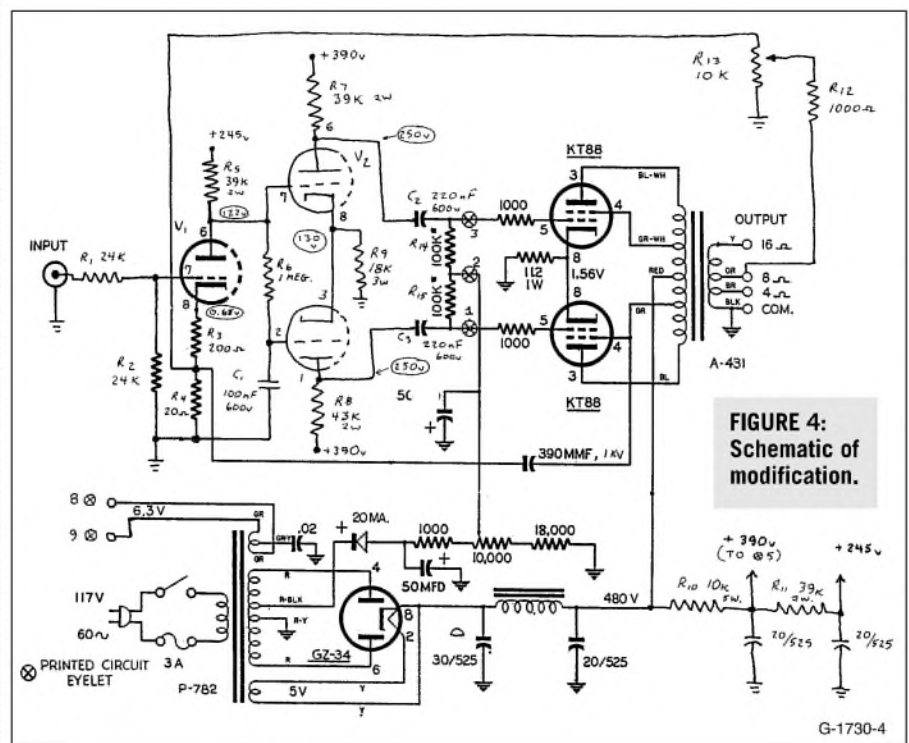

FIGURE 4: Schematic of modification.
9. Remove the original screen feedback wire that went between pin #4 of the lower KT88 and eyelet #4. Solder the 390pF mica capacitor to this same pin, #4, of the KT-88. The solid green screen tap lead from the output transformer goes to this pin also. Splice it to the other side of the 390pF mica and heat-shrink the joint (*Fig. 4*). Eliminate the 680Ω resistor between the 16Ω tap and the COM tap, and leave the COM tap grounded.